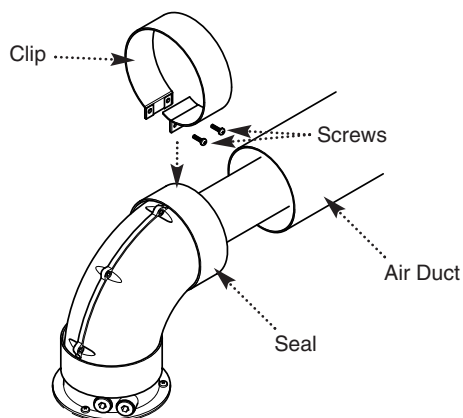

Fig. 32
12. Draw the air duct out of the wall and align it with the elbow. Position the seal so that it equally covers the joint (Fig. 32).
13. Remove the screws from the second clip provided. Prise the clip apart and fit it over the seal. Refit the screws to the clip and tighten them (Fig. 32).